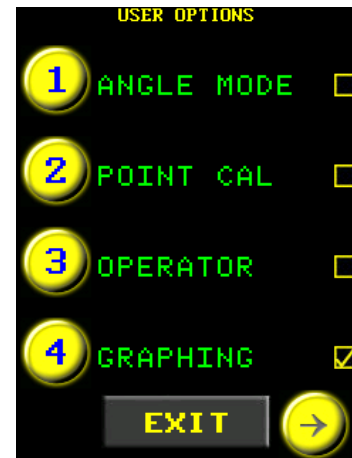

Figure 5.5-2: User Options Menu
3. Select “Graphing” to toggle Graph Mode on or off (Figure 5.5-2).